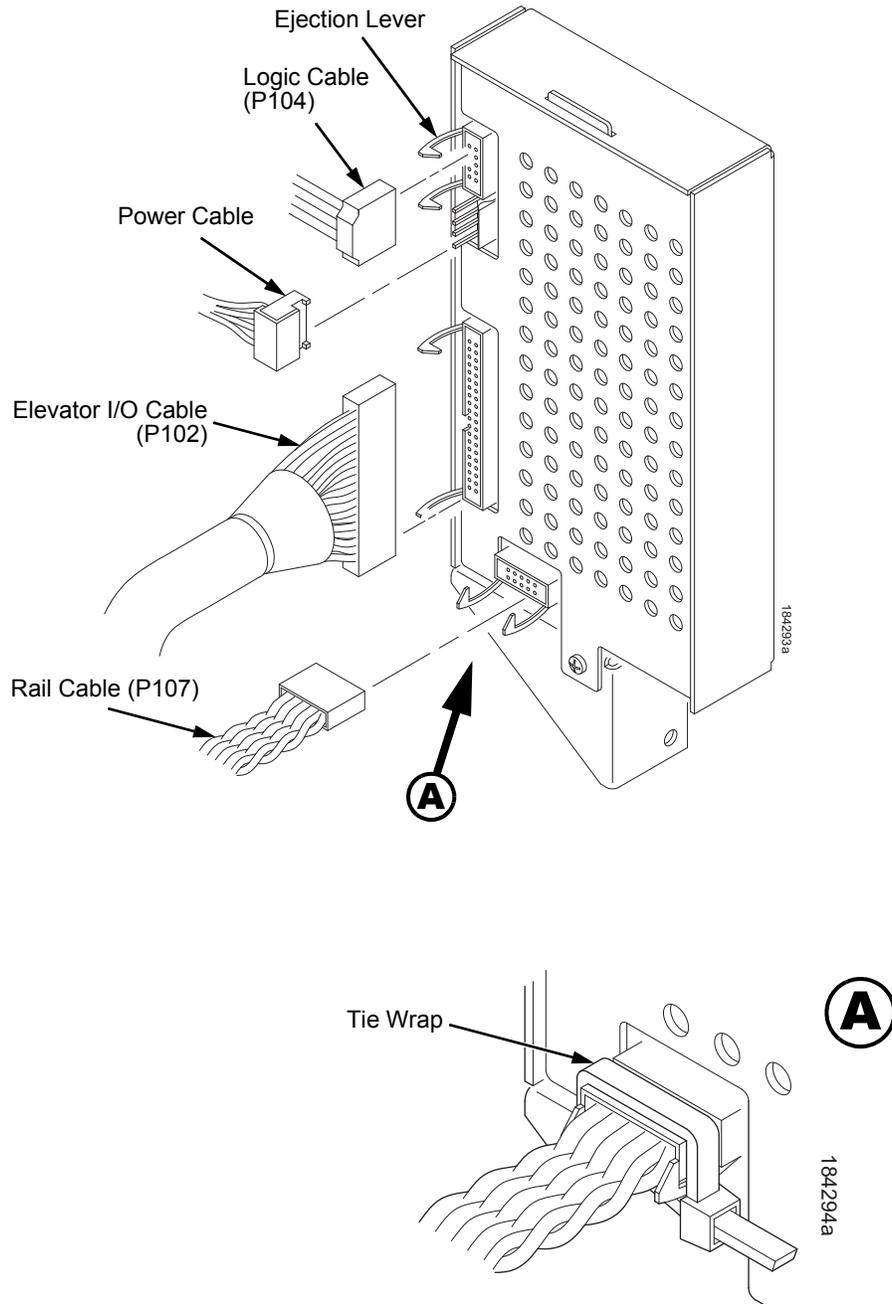

Figure 21. Stacker Control Panel Cables
21. Connect the stacker cables to the rear of the stacker control panel assembly and make sure the ejector levers close over the connectors. (Figure 21.)
22. Press rail cable connector P107 into the control panel until the ejectors close, then tie wrap the ejectors to the connector. (Figure 21, detail A.)